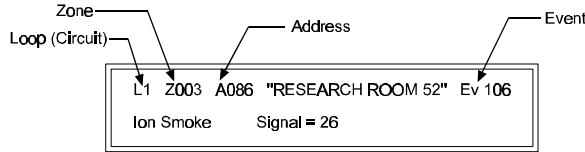

Figure 25: Address Information Display
- Enter the desired zone for this device. If the programmer keys in the number three and presses **Enter**, the display responds with the Address Information Display showing the current zone assignment for this device (see Figure 25).